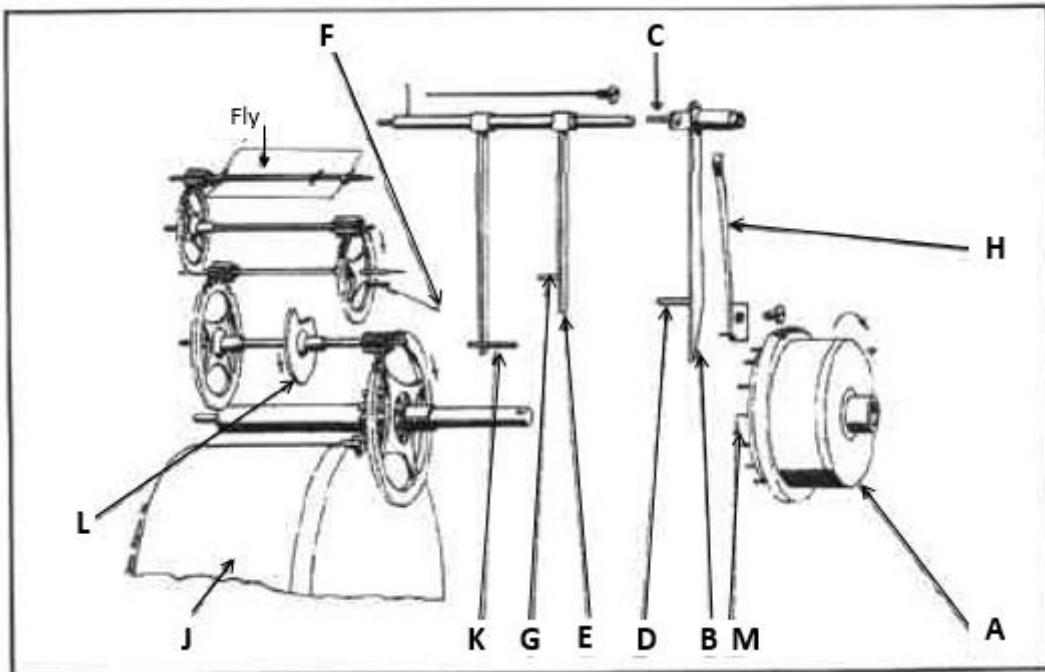

Figure 3. Diagram of the remontoire mechanism.
In transferring power from the mainspring or weight to the escapement, the main going spring, in this case, doesn't actually provide its power directly as it does in most clock movements. Instead, the mainspring only provides the power to "rewind" a much smaller auxiliary (the remontoire) spring via a system similar to that of a strike train (Figure 3). The remontoire power spring (A) is contained in a geared barrel that also has pins protruding out the back, and is wound every 30 minutes by the main going spring (J). The power from the remontoire spring is then transmitted to the escape wheel via a gear train which is not shown in the diagram. To accomplish the rewinding of the remontoire spring, a train of wheels similar in function to those of a strike train is used. The remontoire spring barrel (A) has a number of pins (M) protruding out of it. As the remontoire spring barrel rotates, releasing power to drive the escape wheel, one of its pins (M) engages lever (B), pushing it to the right. As the lever (B) is pushed to the right, the warn lever (C) is lowered to block the path of the fly, and the stop-release lever(G) is being pushed to the right to release the stop-release pin (F), and the cam lock pin (K) is being raised to clear the notch in the cam. Eventually, the pin (M) rotates far enough around to release lever (B), lever (B) gets pushed back to the left by spring (H), releasing the fly and the rest of the remontoire train. The main going barrel (J) then drives the remontoire train until the locking cam (L) has made one revolution. When the locking pin (K) drops into the notch in the locking cam, the stop-release pin (F) is captured by (G) and the motion of the train is arrested. It takes the escape wheel 30 minutes to use up enough power to allow the remontoire spring barrel (A) to rotate enough for the next rewind to occur. Therefore, the power being provided to the escape wheel is generated from the same portion of the remontoire spring, providing a constant and consistent amount of power.